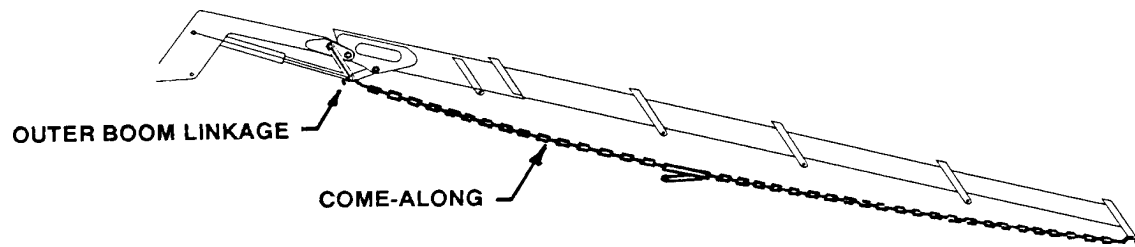

FIGURE 4. SECURING BOOMS
3. Secure the end of the last extension to a suitable place on the boom, such as the outer boom linkage - rod end side - with a "come along", to keep extension booms retracted during removal of extension cylinders. See Figure 4.